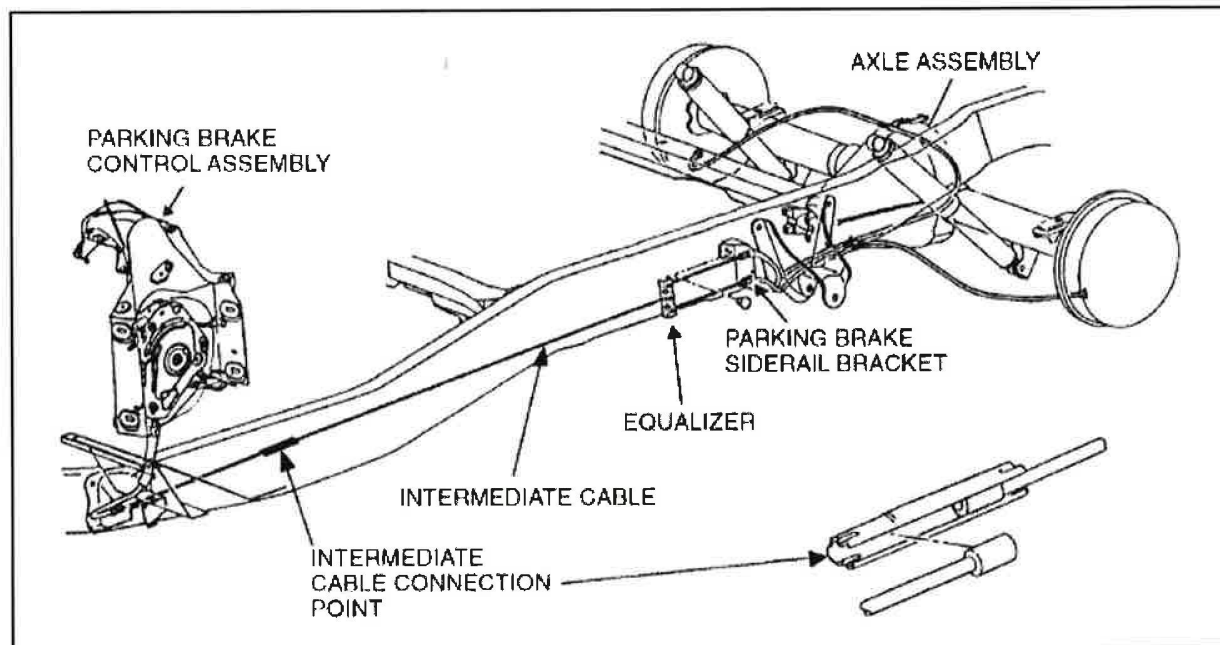

Figure 18 – Example of Parking Brake Cable System
- Measure and record the exact position of the parking brake cable side rail bracket relative to the forward edge of the rear spring front hanger bracket (see Figure 18). This dimension is critical to the reconnection procedure, as the bracket must be remounted in the original OEM position relative to the spring hanger bracket.